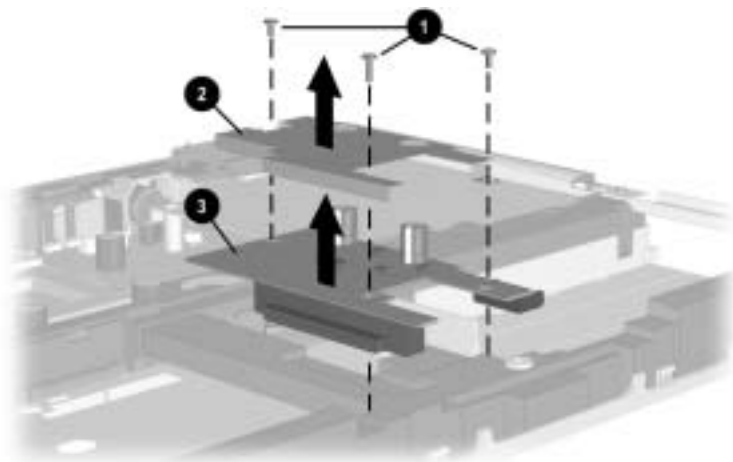

Figure 5-36. Removing the Charger Board
3. Remove the three TM2.5 × 5.0 screws ❶ that secure the charger board to the base enclosure (Figure 5-36).
4. Lift the front edge of the charger board shield ❷ until it clears the base enclosure, then slide the shield forward to remove it.
5. Lift up on the back edge of the charger board ❸ to disconnect it from the system board.